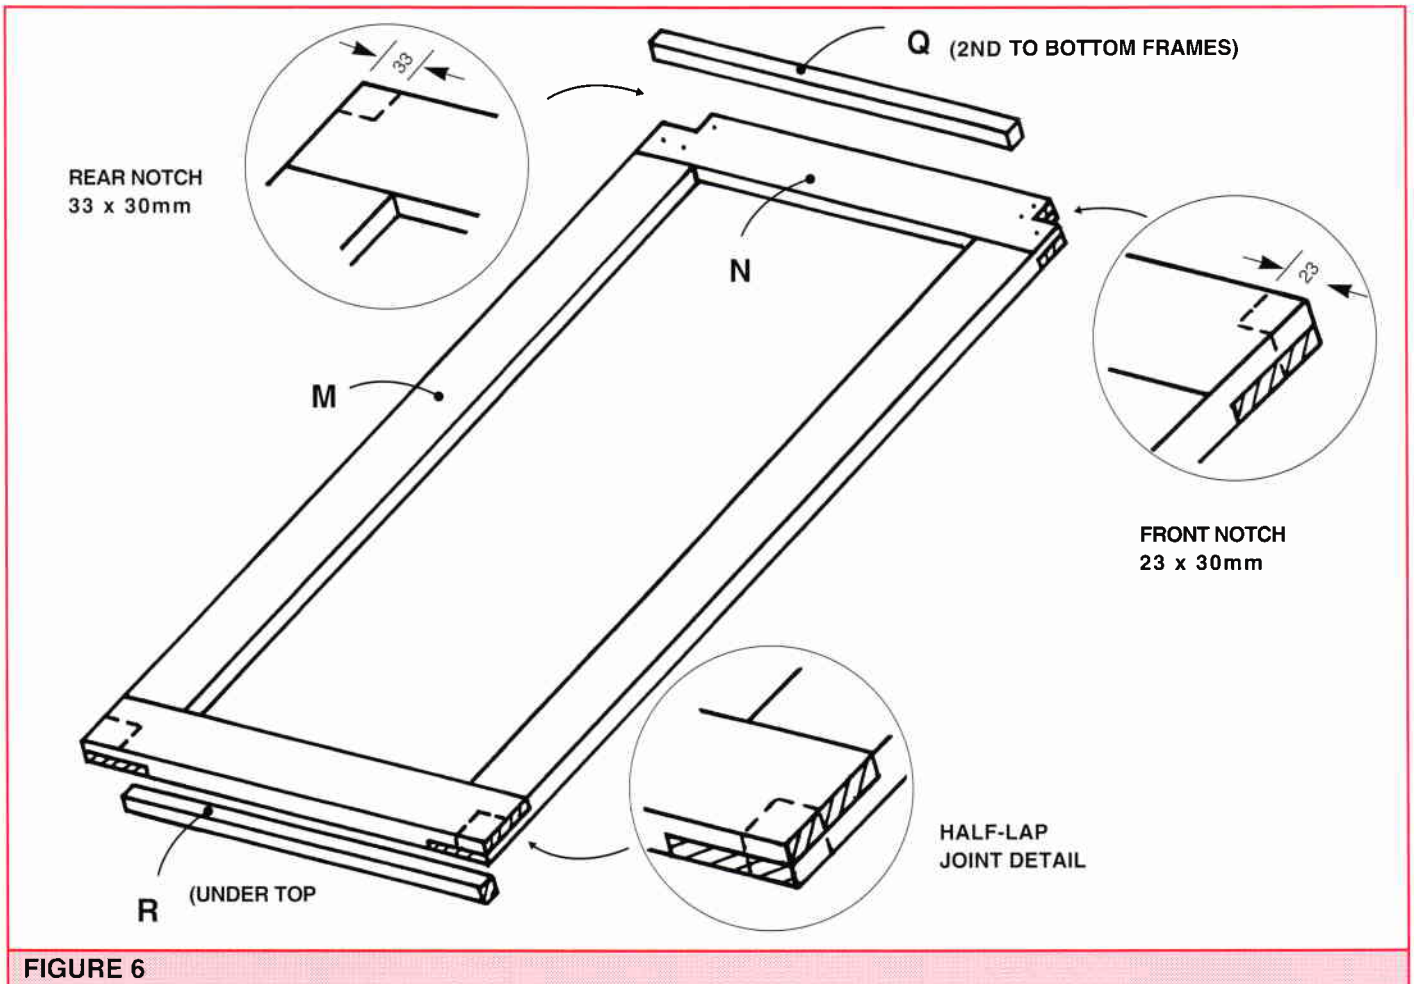

FIGURE 6
9 Make up the five internal frames (**M & N**) from the 70 x 19mm material with 1/2 lap corner joints, as shown in **Figure 6**. Use the Workcentre in the crosscut mode, and repetition rebate all 20 pieces in say, groups of 3. Remove the notched workstop and use the ripfence as a stop.
10 When the frames are dry, notch out their corners to receive the corner posts, using a small hand saw. Note that the back notches need to be recessed deeper than the front, so that the frames are flush with the rebated back edge of the rear corner posts, but are 19mm in at the front, to allow for the front cover strips. (**Figures 6 & 7**)
12 Cut to size the top corner blocks (R) from your 19 x 19mm material and glue and nail under the top frame and against the sides to provide additional strength here. See Figure 6 again.